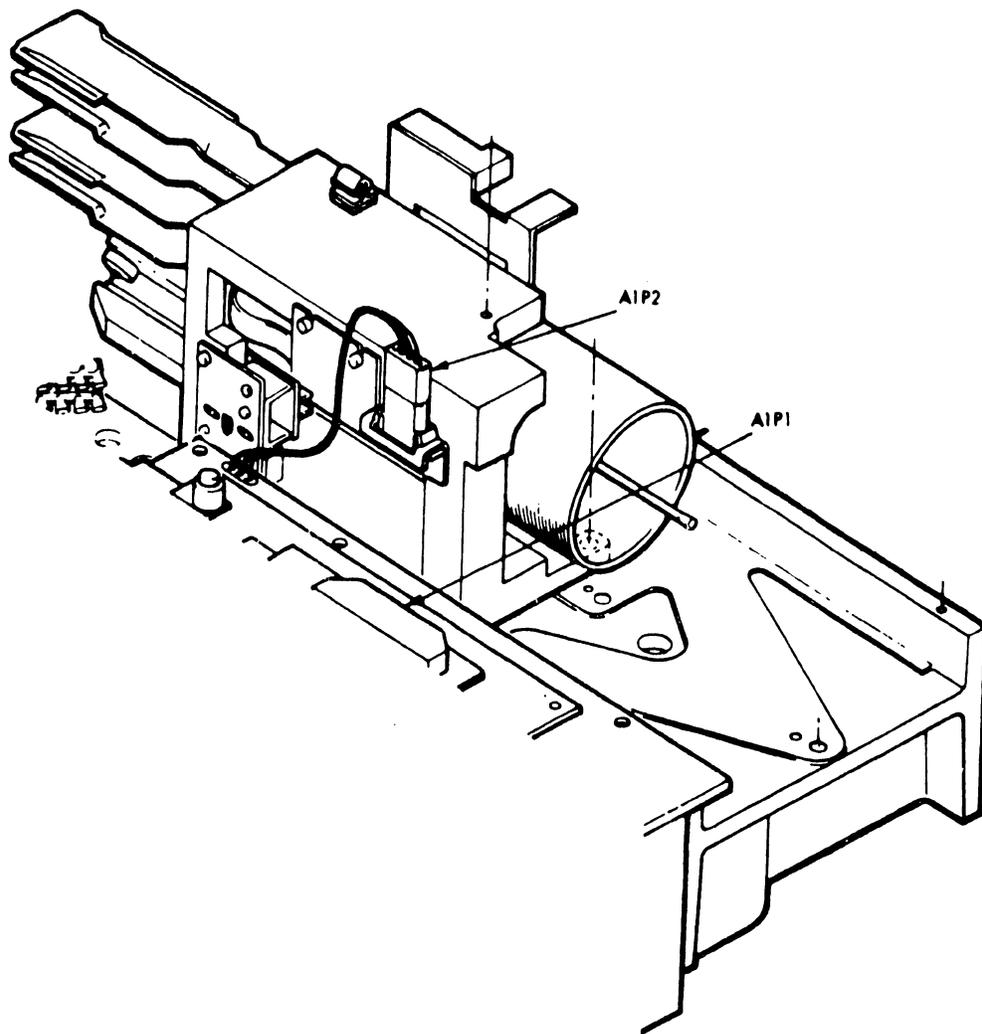

FIGURE 4-49 ACTUATOR ASSEMBLY (PARTIAL - SHOWING AIP2 LOCATION)
1. Remove A1P2 from the servo actuator (Figure 4-49).
5. Unplug AlP2 on the actuator assembly (Figure 4-49).